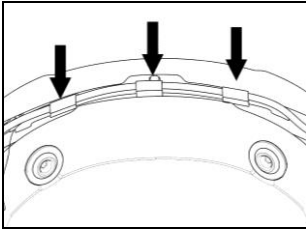

Fig. 34
- Position the wiring and the antenna at the back of the helmet (Fig. 34).